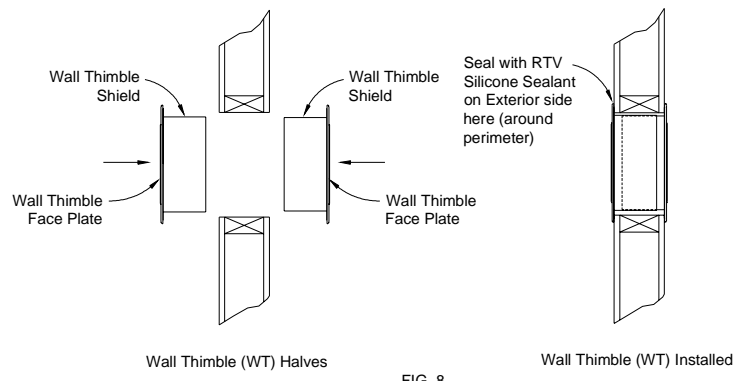

FIG. 8
5) If required, install the outside half of the Wall Thimble (WT) through the opening and screw or nail in place. (See Fig. 8) Seal around the perimeter of the thimble face plate on the exterior wall using an RTV Silicone Sealant to provide protection from possible rain infiltration (see Fig. 8).